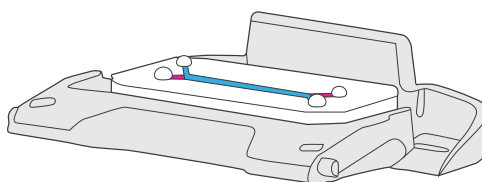

Figure 4: Chip in chip carrier with small droplets of ECM solution at ports
5. Introduce ECM solution through the top channel inlet, leaving small droplets of excess ECM solution on both ports in both channels. (See Figure 4 below.)